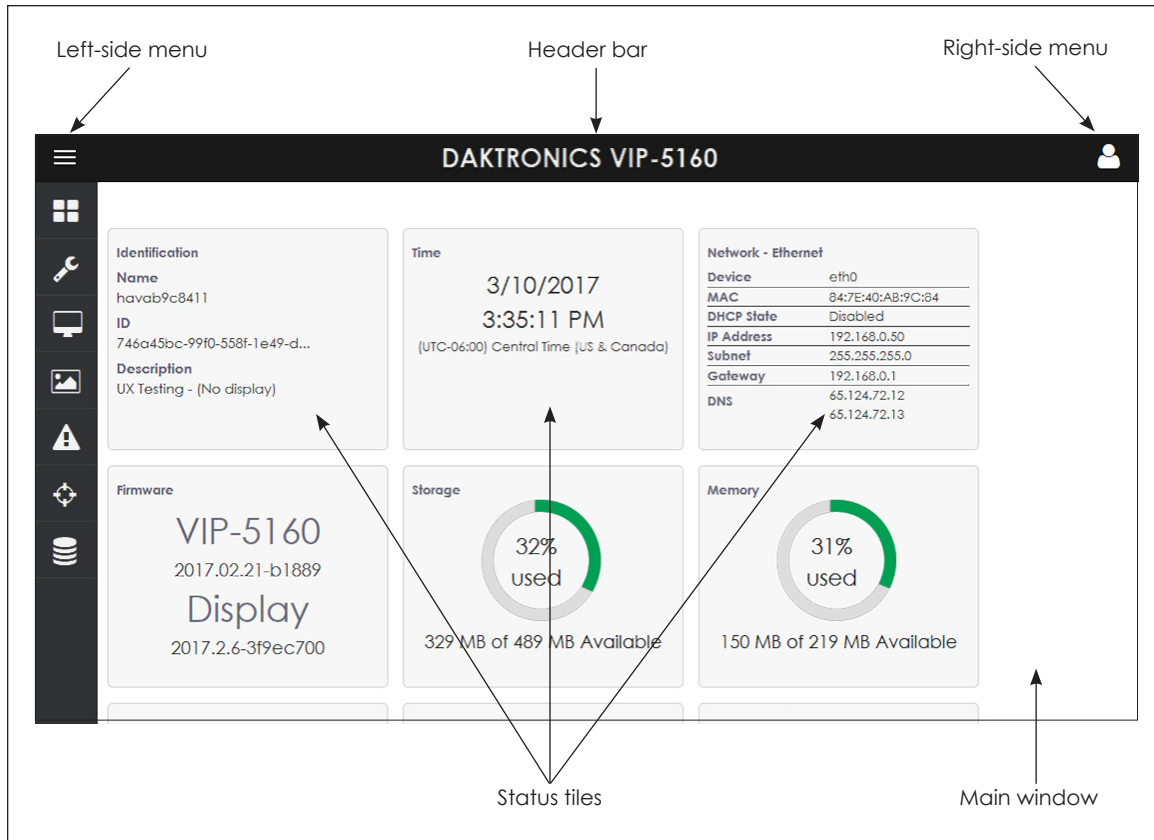

Figure 21: Interface Elements
The VIP-5000 series processor interface includes elements that are always visible to the operator, including a header bar, left-side menu, right-side menu, and main window. Refer to **Figure 21**.
- **Main window** displays elements, information, and data related to current operator selections and system triggers. The example in **Figure 21** above shows the initial **Dashboard** screen with status tiles in the main window.